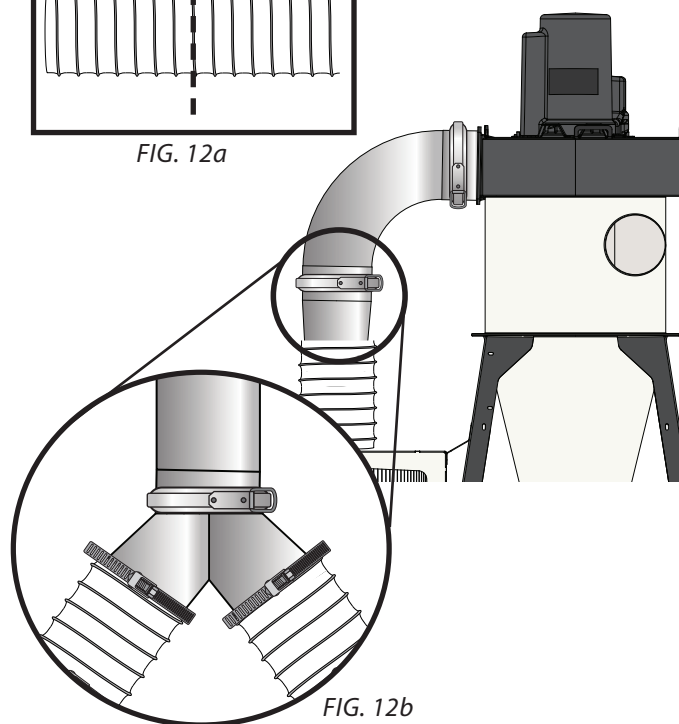

FIG. 12b
Attach the 7" Diameter Flex Hose to the 8x7x7 Pants Wye (K), and secure it in place with the 6-8" Hose Clamp (L). Repeat the process to attach the opposite end of the Hose onto each opening on the Dual Filter Plate (N) [FIG. 12b].